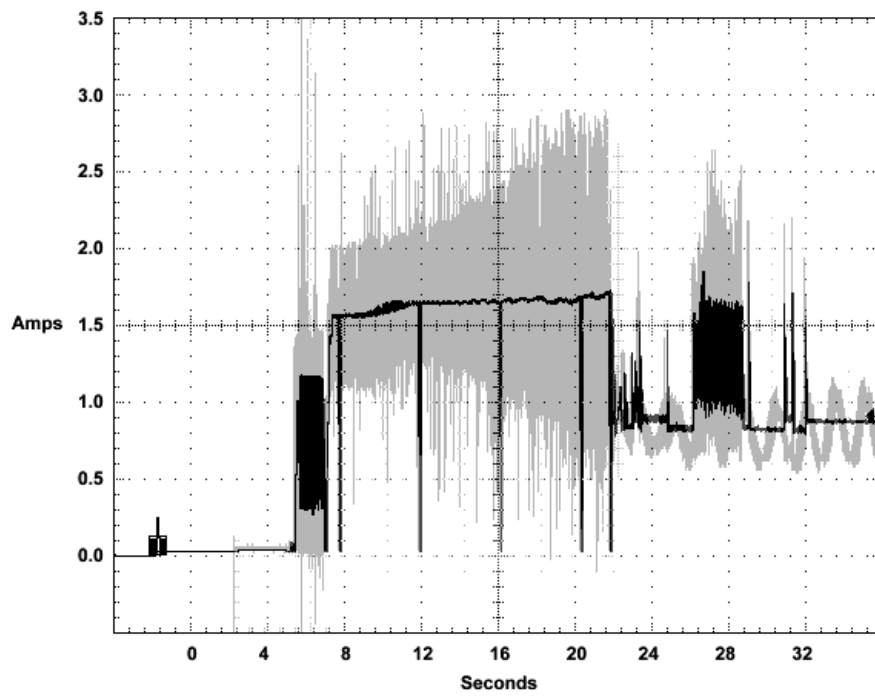

Figure 1. Typical ST3300655LW drive +12V LVD current profile
- [3] See +12 V current profile in Figure 1.
Figures 1 and 2 show +5V and +12V sample current profiles for the ST3300655LC model.